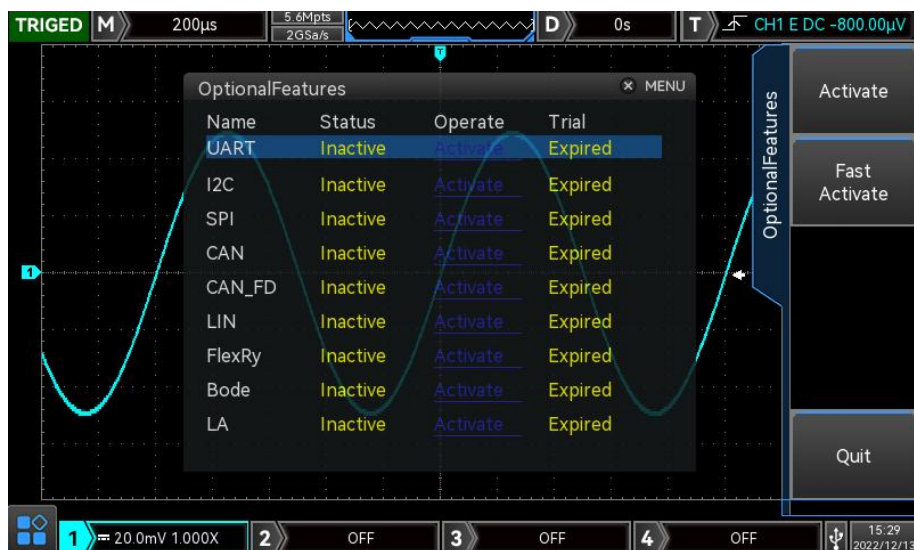
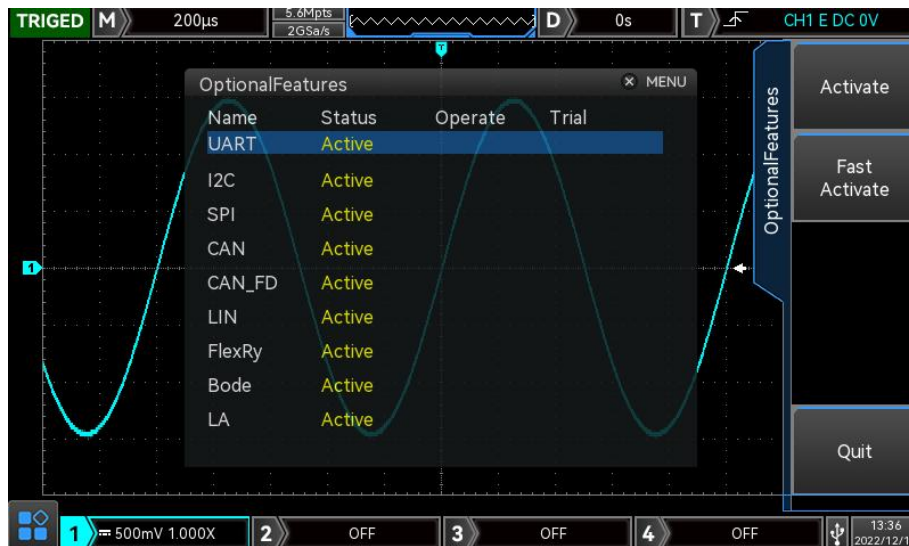

Figure 13-1
Figure 13-2
**Option Function** is the entrance of activating option, it can select to activate single option (as shown in Figure 13-1) or activate all (as shown in Figure 13-2). All options supports free trial for 145 hours as shown in Figure 13-1. After free trial, the option should purchase to use. Activating option should select the purchased option and acquire the corresponding license and save it into USB and then insert to the instrument. MSO/UPO2000 option supports UART, I2C, SPI, CAN, CAN\_FD, LIN, FlexRay, bode diagram and LA.